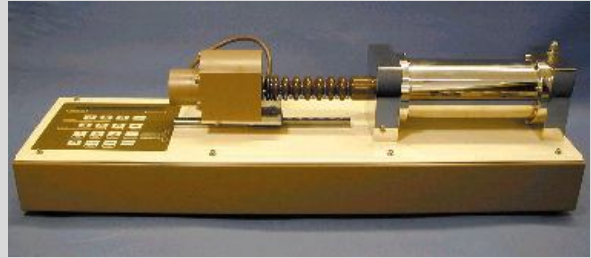

Fig. 7 1000cc Advanced Pressure/Volume Controller (ADVDPC)
- 1000cc Advanced Pressure/Volume Controller, ADVDPC, (for application of pore air pressure and measurement of air volume change) as in Fig. 7.